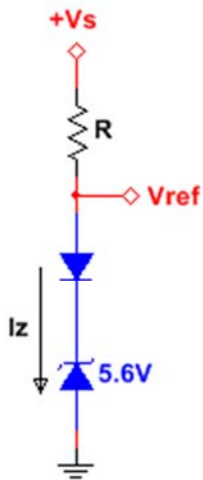

Fig. 3
- 3) Choose the appropriate resistor R (value and power rating) for a voltage reference that uses a 5.6V Zener in series with a diode (see Fig. 3). The power supply V_S can vary from 10 to 15V. For this problem, you can assume the diode and zener always have $V_F = 0.7V$ and $V_Z = 5.6V$, respectively. However, make sure the Zener has no less than 10 mA of current.